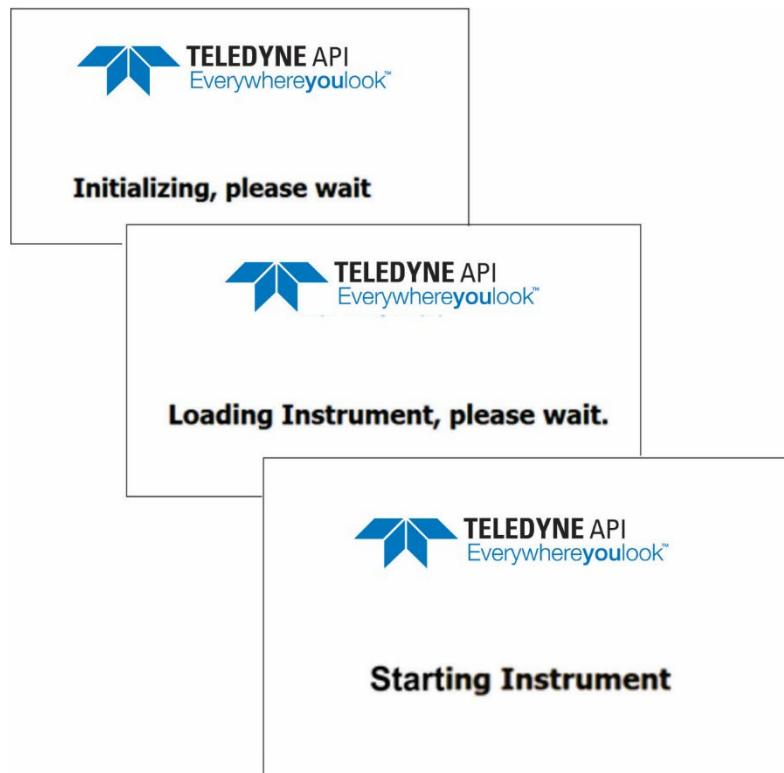
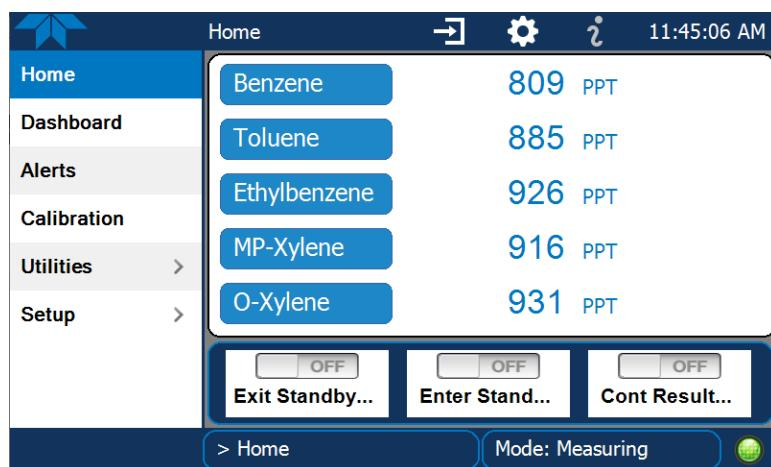

Figure 2-12. Status Screens at Startup
Figure 2-13. Home Page
Upon initial startup, a sequence of status screens (Figure 2-12) appear prior to the Home page (Figure 2-13).
- Configure the Homescreen (Section 2.5.7) to include those controls in the meters at the bottom of the page (Figure 2-13) and slide the desired control switch to ON.